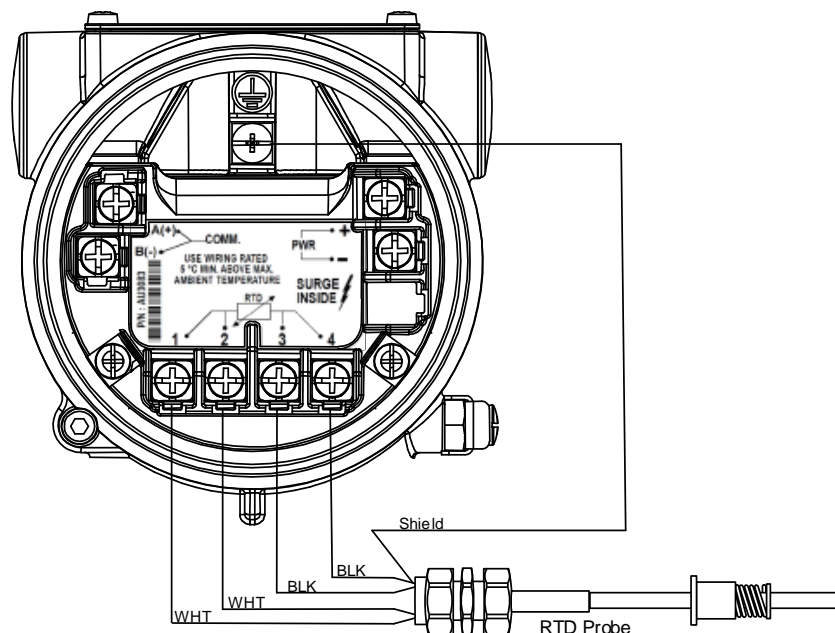

Figure 46: RTD replacement
3. Disconnect all RTD termination wires from the terminal block (Figure 46).